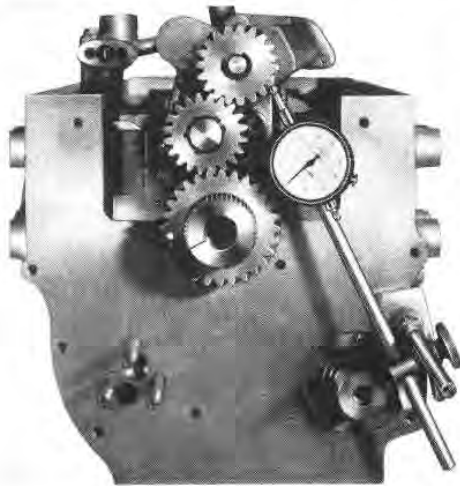

Fig. B61 — Checking Oil Pump Gear Backlash
2. Refit the idler gear to the shaft with the recessed face towards the front and secure with the circlip. Check the idler gear end float which should be 0.002/0.016 in. Check the backlash between oil pump gear and idler gear which should be 0.006/0.009 in. Fig. B61.